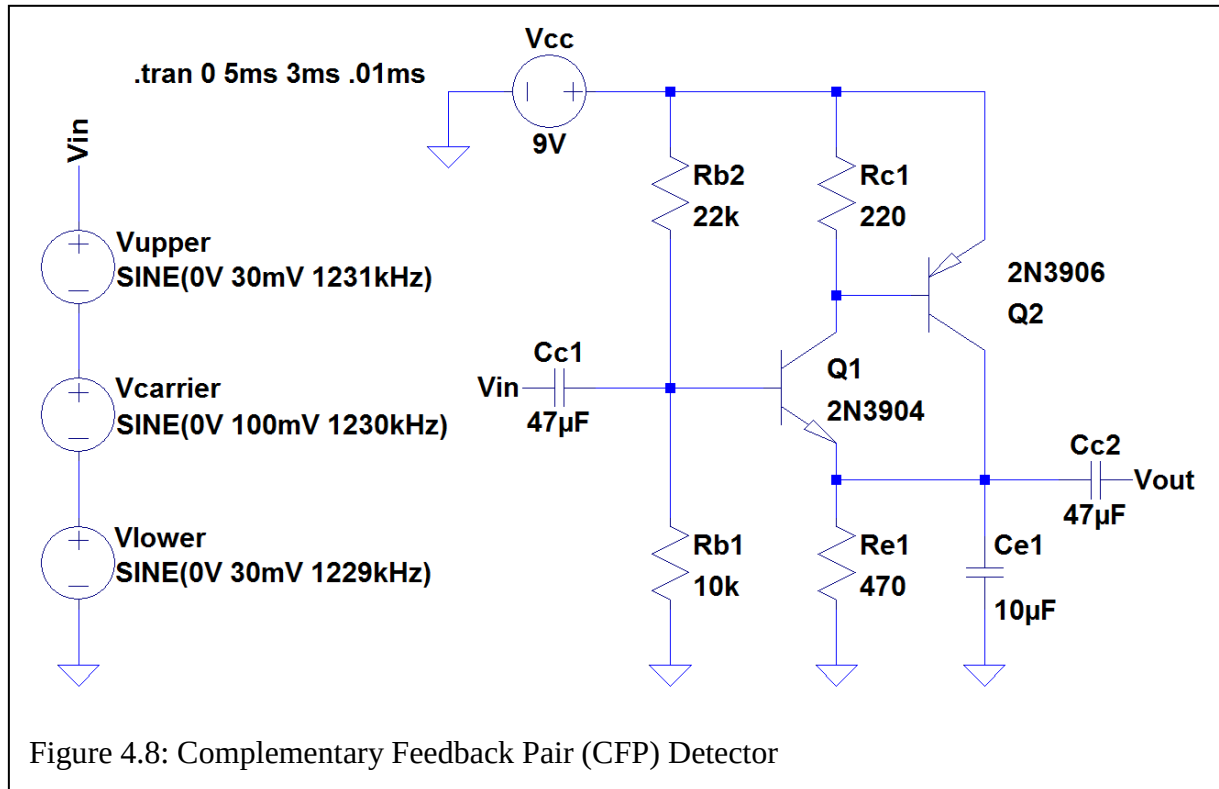

Figure 4.8: Complementary Feedback Pair (CFP) Detector
An alternative detector configuration that works well over a range of input signal levels is the complementary feedback pair detector shown in Figure 4.8. The basis for this structure is somewhat described in:
1. The circuit of Figure 4.8 features a very strong input signal (100 mV carrier amplitude). **Simulate** this circuit to duplicate the output shown in Figure 4.9a.
Figure 4.9: Output for CFP Detector for (a) the default case of Figure 4.8, and (b) the case where the input signal has been reduced to a 5mV amplitude carrier, and 1.5mV amplitudes for the upper and lower sidebands.
8. Construct the CFP detector circuit of Figure 4.8.